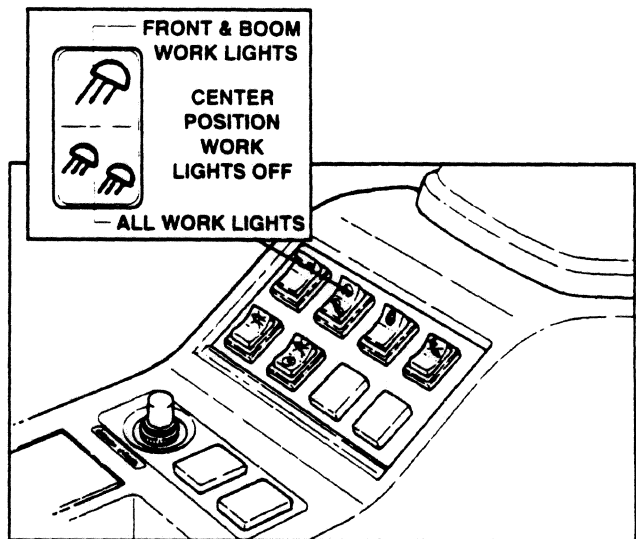

FIGURE 2.12
2. Working Lights Select Switch- FIGURE 2.12